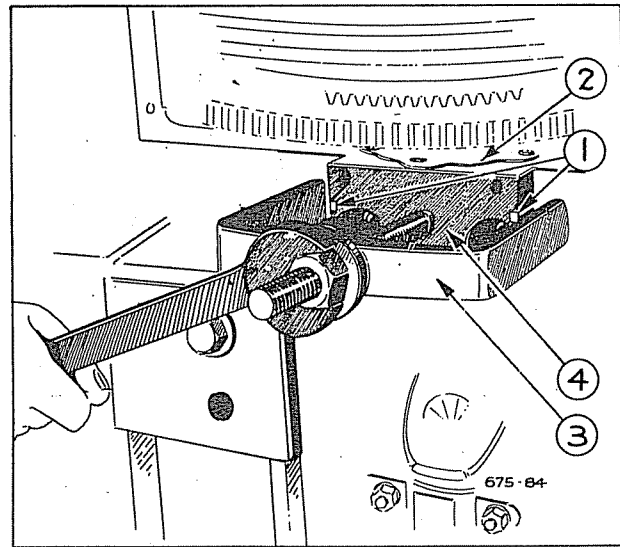

Fig. 2—Removing Rear Main Bearing Cap with Tool C-305.
- (1) Remove carburettor, spark plugs, etc., and any accessory that will interfere when the engine is turned upside down in a stand. Invert engine..
- (2) Remove the fan belt and fan drive pulley.
- (3) Remove timing chain case and the cylinder block end plate.
- (4) Remove the clutch pan, clutch assembly.
- (5) Remove oil pan.
- (6) Remove oil pump and strainer assembly and pump outlet pipe.
- (7) Remove the connecting rod bearing caps.
- (8) Remove the main bearing caps. Use Tool C.305 on the rear cap (Figure 2). Remove crankshaft.
- (9) Remove the crankshaft sprocket from the crankshaft using Puller Tool DD-888.
- (10) Remove the clutch pilot shaft bearing from the end of the crankshaft.
With tool C.305, remove the rear main bearing cap (Figure 2).